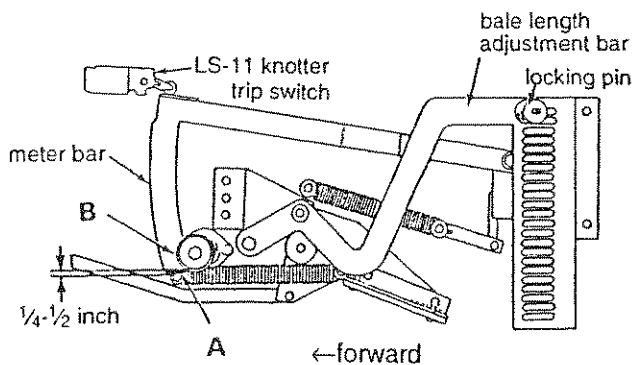

Fig. 51
1. Raise the meter bar until cam contacts switch arm roller and the switch clicks to operate, see **Fig. 51**.